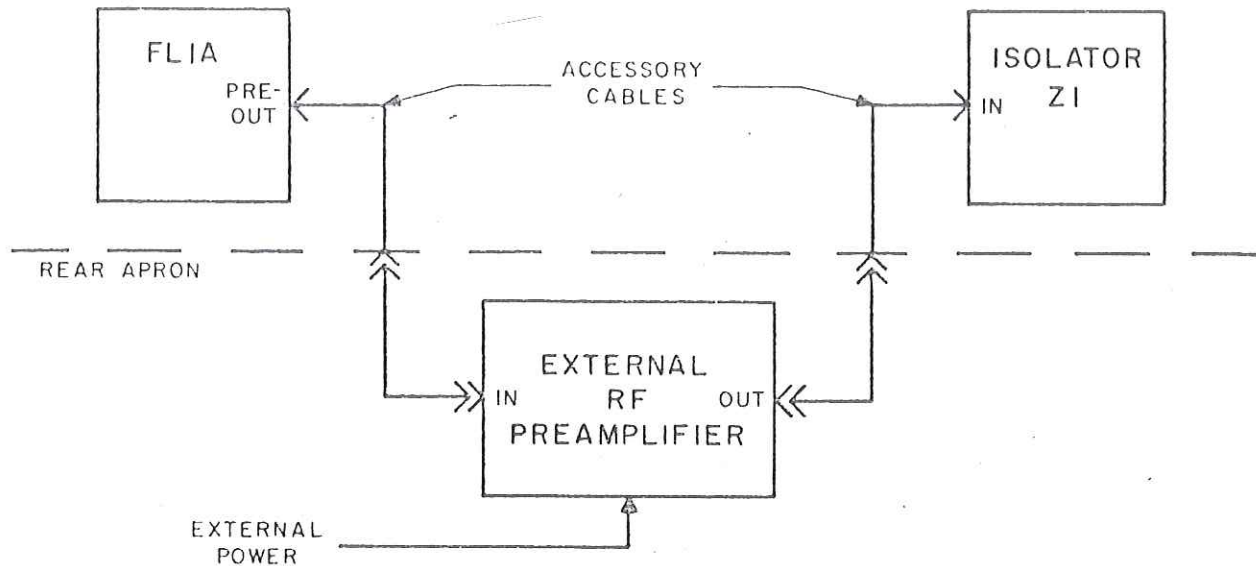

Figure 3-1. External RF Preamplifier Connections
3.2.5 External RF Preamplifier Installation. - Provision has been made on the MTF-100A, -101, and -102A for connecting an external RF preamplifier in the TH-Series Tuning Head circuitry. The external RF preamplifier connects between the YIG preselector FL1A and the isolator Z1 as shown in Figure 3-1. Low noise TWT amplifiers such as the Watkins-Johnson WJ 422, WJ 423, and WJ 424 contain their own integral power supplies and cover the frequency ranges of 2.0-4.0 GHz, 4.0-8.0 GHz, and 8.0-12.0 GHz, respectively. Contact your local Watkins-Johnson representative for details and specifications. Installation of the preamplifier is identical for each type of MTF Tuning Frame and for each tuning head position. Follow the procedure as outlined below.
- (d) Complete the installation by connecting the RF preamplifier as shown in Figure 3-1.